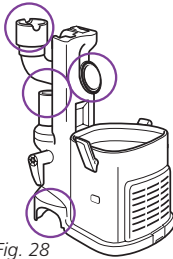

Fig. 28
- Remove the dust cup and extension wand and separate the detachable canister from the motorized floor brush. Look in all 4 openings for any blockages. (Fig. 28)